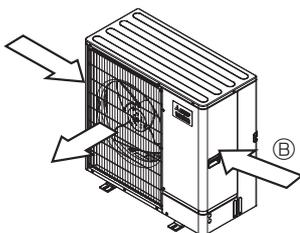

Fig. 1-21
- ③ Position the unit so that the air outlet blows perpendicularly to the seasonal wind direction, if possible. (Fig. 1-21)
(2) When installing a single outdoor unit (Refer to the next page)